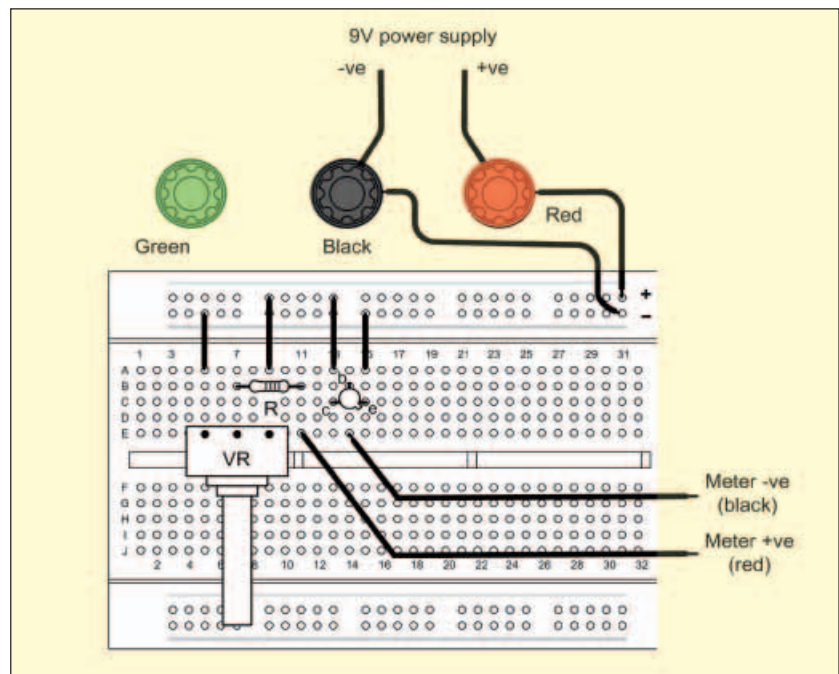

Fig.6.21. Wiring diagram for setting the base current in Practical Investigation 6.1
Wiring diagram: See Fig.6.21 and 6.22
1. Connect the circuit in Fig.6.20a as shown in breadboard Fig.6.21 and Table 6.6. Before switching on the supply (or connecting the battery), set the meter to the DC 2mA range and the variable resistor VR1 to minimum position (i.e. fully anticlockwise).
Table 6.6 To set the base current in Fig.6.21